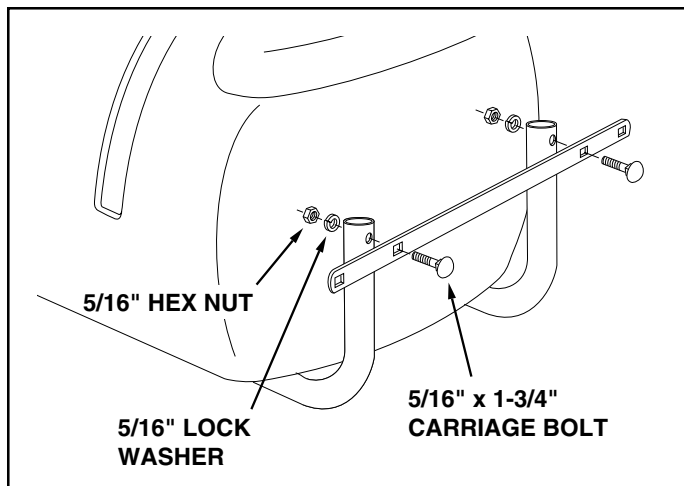

FIGURE 6
- Assemble the boom mount bracket to the rear of the hitch tubes using two 5/16" x 1-3/4" carriage bolts, 5/16" lock washers and 5/16" hex nuts. **Do not tighten yet.** See figure 6.
Tighten the two bolts which fasten the boom mount bracket to the rear of the hitch tubes. See figure 6.